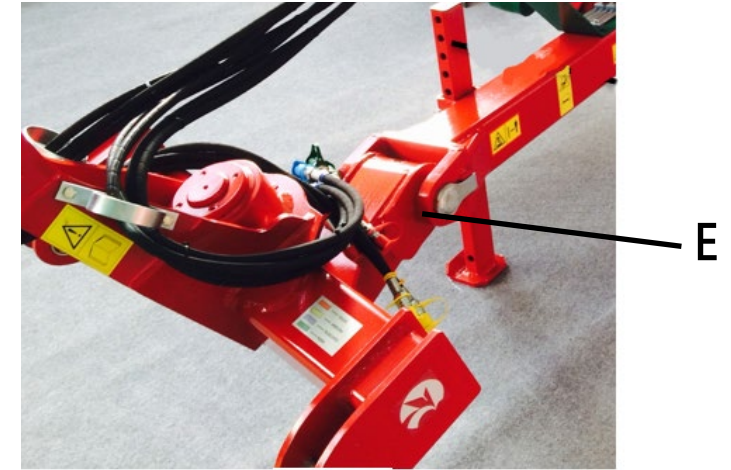

Fig. 6
- Link the 3rd point watching that the axis E (Fig. 6) remains the most vertically possible.